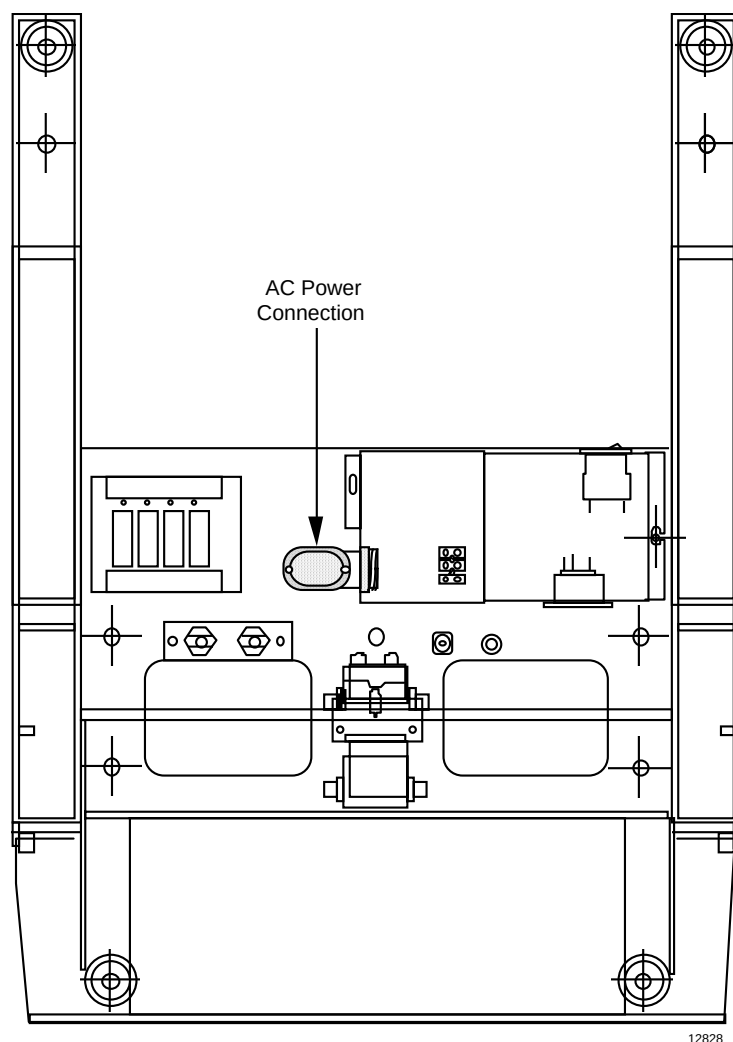

Figure 5-4 Power Entry to Z-Furniture Stations (Bottom Entry)
- Figure 5-4 shows access from beneath the station.